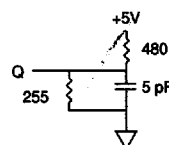

Fig. 2 OUTPUT LOAD EQUIVALENT
6. ^tHZCE, ^tHZOE and ^tHZWE are specified with CL = 5 pF as in Fig. 2. Transition is measured ± 500mV typical from steady state voltage, allowing for actual tester RC time constant.